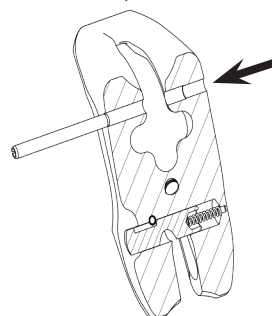

Fig. 24:
1. For easy dismantling, always remove the locking pin with the hammer as shown in Fig. 24 (opposite to the bolt).